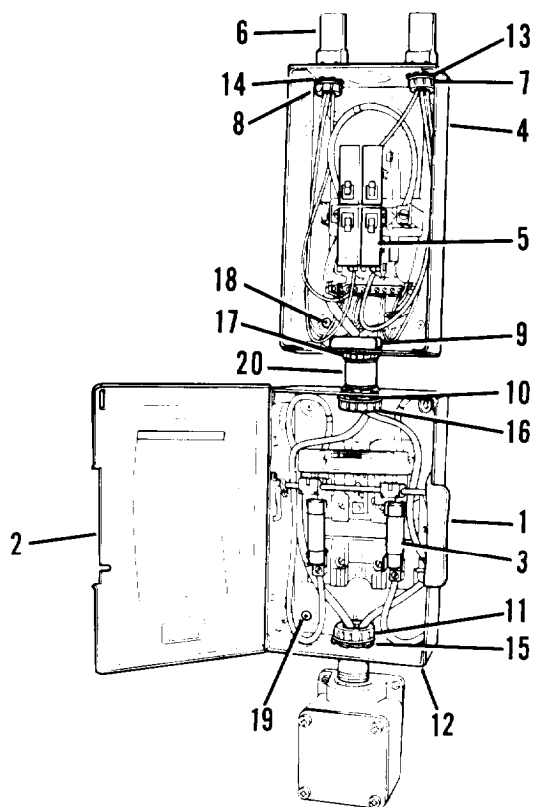

Figure 4-1. Switch box and circuit breaker load center, covers open.
- a. Place switch handle (1, figure 4-1) in OFF (down) position.
- b. Release pressure of snap fastener holding switch box cover closed. Open cover (2).
- c. Grasp fuse (3) firmly in the center and pull from clips.
- d. Holding new fuse (3) in the center, press into clips.
- e. Close cover (2) and place switch handle (1) in the ON (up) position.
- (1) Remove door (already removed in figure) on circuit breaker load center (4, figure 4-1).
- (2) Pull defective circuit breaker (5) out of load center (4).
- (1) Snap new circuit breaker (5, figure 4-1) in load center (4).
- (2) Check switch (1) for loose contact. press contacts closer together.
- (3) Install door on circuit breaker load center (4).
- (1) Remove door on circuit breaker load center (4, figure 4-1). Open door (2) on switch box (12).
- (2) Disconnect all internal wiring and tag for ease of installation.
- (3) Remove wire run covers (6) at top of load center (4).
- (4) Remove caps (7,8 and 9) in the circuit breaker load center (4). Slide off of wiring.
- (5) Remove caps (10 and 11) in the switch box (12). Slide off of wiring.
- (6) Remove close nipples (13 and 14) from top of load center (4).
- (7) Remove locknut (17) at bottom of load center (4). Slide off of wiring.
- (8) Remove two locknuts (15 and 16) in the switch box (12). Slide off of wiring.
- (9) Remove rigid coupling (20).
- (10) Remove four screws (18) securing circuit breaker load center (4). Remove circuit breaker load center (4).
- (11) Remove four screws (19) securing switch box (12). Remove switch box (12).
- (1) Position circuit breaker load center (4, figure 4-1) on wall and insert wiring through holes in top. Secure with four screws (18).
- (2) Position switch box (12) on wall and insert wiring. Secure with four screws (19).
- (3) Slide rigid coupling (20) over wiring.
- (4) Thread wiring through bottom of load center (4). Slide locknut (17) over wiring. Tighten locknut (17).
- (5) Install and tighten two locknuts (15 and 16) in switch box (12).
- (6) Install close nipples (13 and 14) at top of load center (4).
- (7) Install caps (10 and 11) in switch box (12).
- (8) Install caps (7, 8 and 9) in circuit breaker load center (4).
- (9) Remove tags and connect all internal wiring in switch box (12) and circuit breaker load center (4).